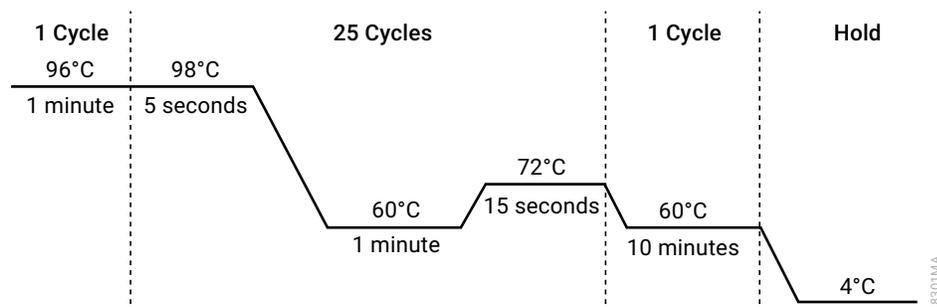

Figure 27. Thermal cycling protocol for the ProFlex® PCR System.
2. Select and run the recommended protocol, which is provided below and in Figure 27. The total cycling time is approximately 1 hour.